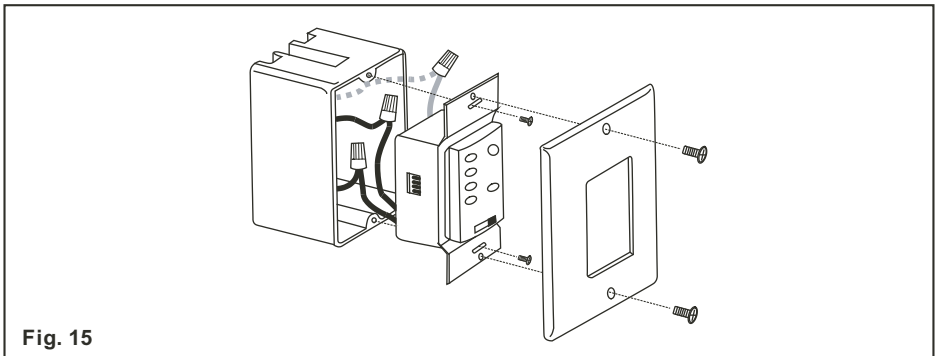

Fig. 15
**Step 3.** Carefully tuck the wire connections inside the outlet box. Use the screws provided to secure the wall transmitter and wall plate to the outlet box. (Fig. 15)